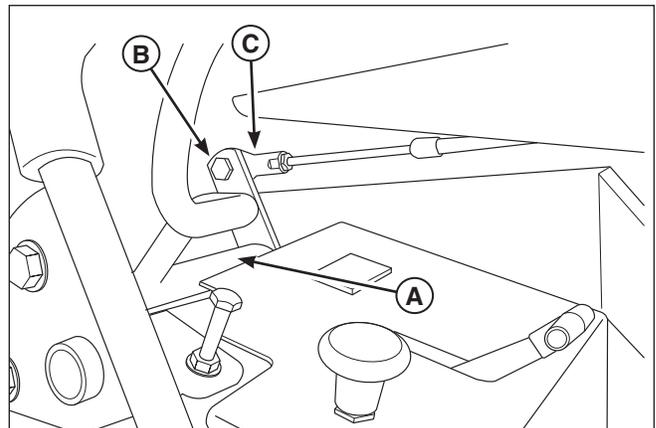

Figure 60. Removing the Cables
- Remove the eyebolt hardware (**B, Figure 60**) that secures the eyebolt (**C**) to the ground speed control lever arm (**A**).
4. Install the eyebolt (**C**, **Figure 60**) to the ground speed control lever arm (**A**) and secure using the eyebolt hardware (**B**). The eyebolt should be on the inside edge of the ground speed control lever arm tab and the hardware should be routed so it faces towards the center of the unit.